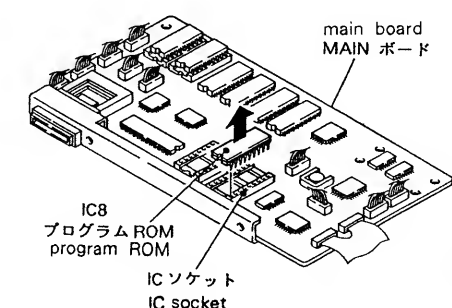

Fig.4
4) When the main board is positioned face up, the program ROM can be seen. First verify that it is the program ROM of IC8 and then remove the ROM from the IC with a tool such as a ROM puller. (Fig.4)